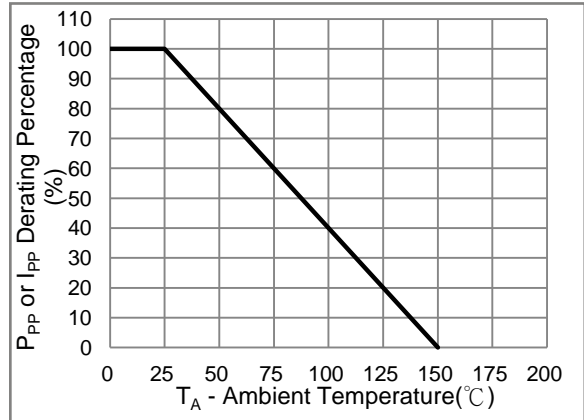
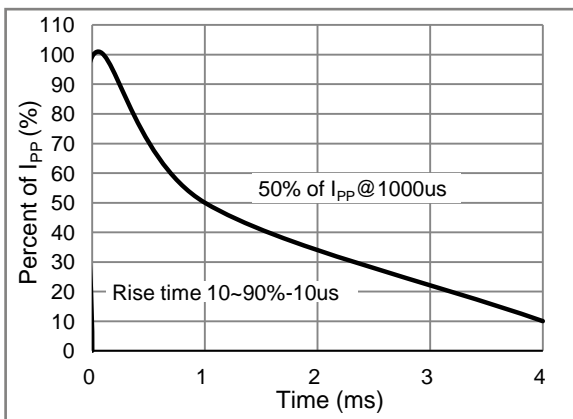

Fig.2 Derating Curve
Fig.3 10/1000 μ s Pulse Wavform
1. Non-repetitive current pulse, per Fig.3 and derated above T_A = 25°C per Fig. 2.